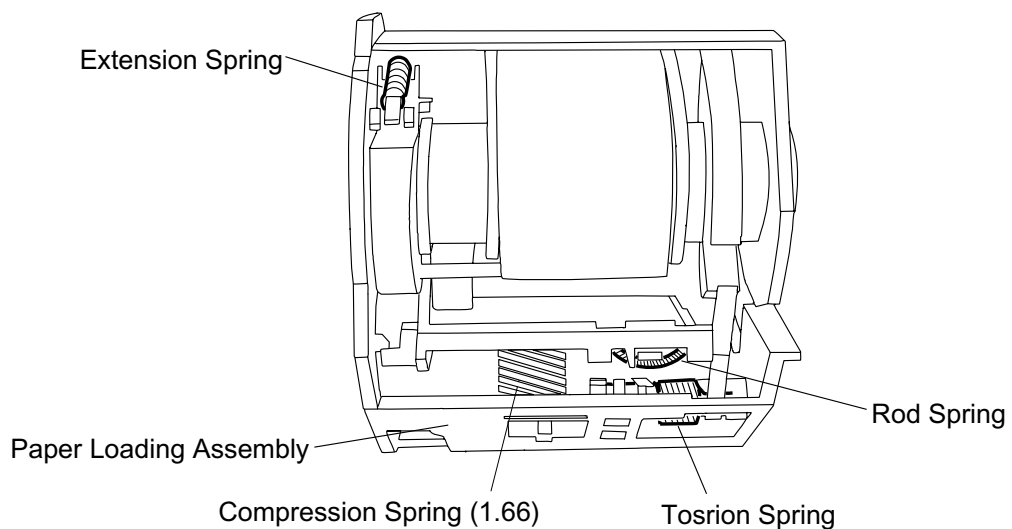

Figure 3-28 Spring Installation
- Ensure the following are correctly mounted onto the paper loading assembly before assembling. (See Figure 3-28.)